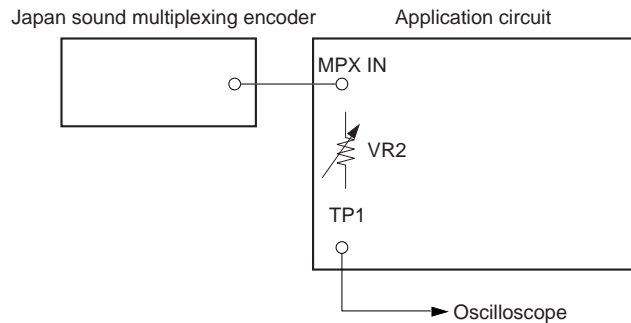

Fig. 1
- 1) Connect as shown in Fig. 1